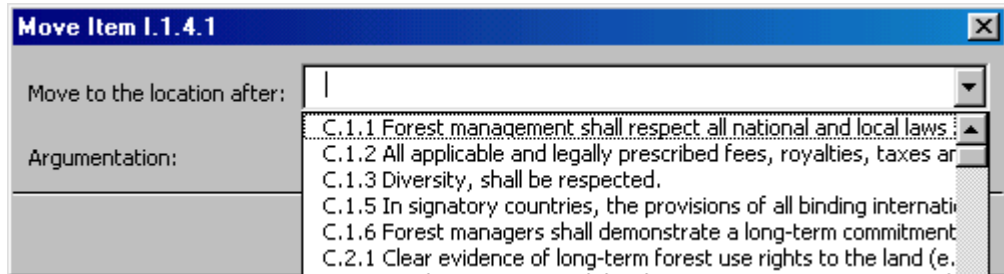

Figure 11. Moving an item
- Define a new location where you want the item to be placed and give the argumentation for why the item needs to be moved. To do this you have to define after which item you want the new location to be (see Figure 11).